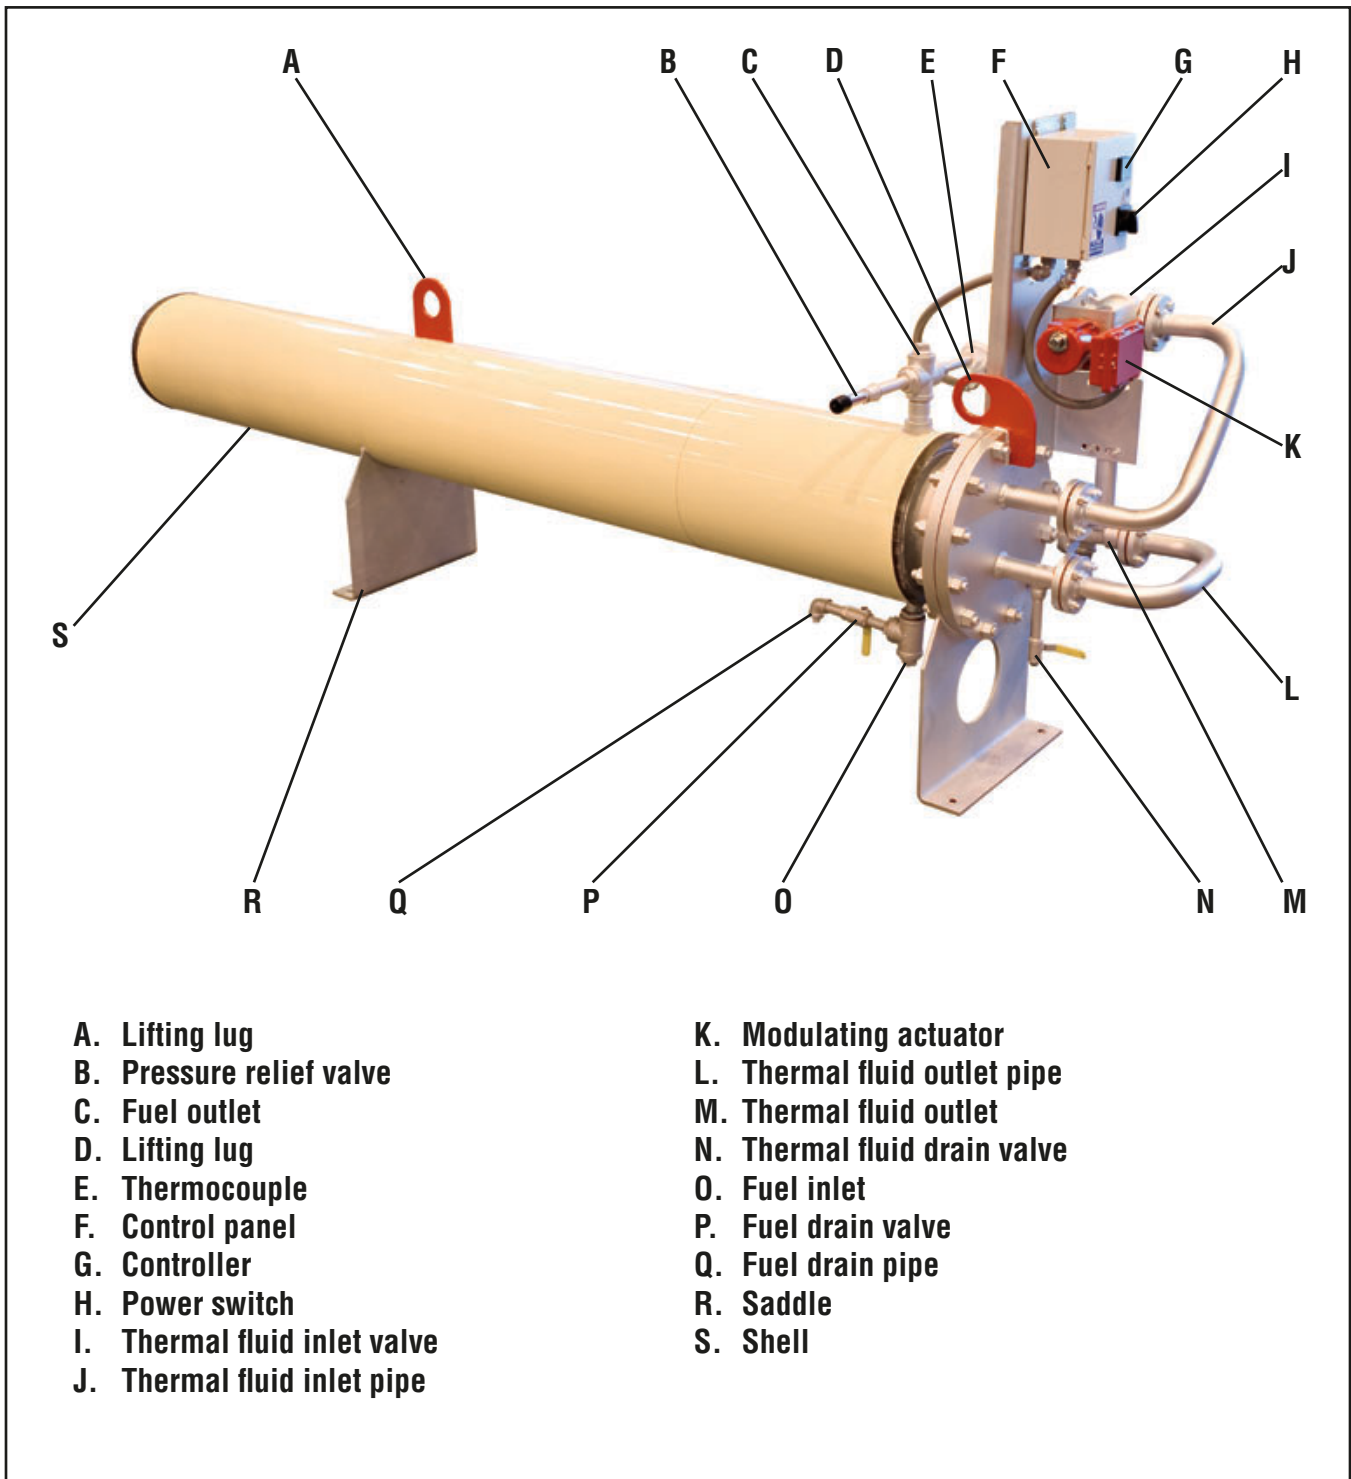

Figure 3. Major components of HFP series fuel preheater.
Before operating the preheater you should become familiar with the positions of the coupling that connects the Triac EM300 modulating actuator (Fig. 3) to the 3-way valve.
Before you fill the preheater with fuel, drain all water from the fuel tank. Some fuels may contain up to 2% of water. Therefore a 10,000 gallon tank filled with fuel could include up to 200 gallons of water. Water is heavier than fuel, so it will settle at the bottom of the fuel tank. You must drain water from the fuel tank to avoid filling the preheater with water. If the preheater contains water when hot thermal fluid enters the heating coils, the water can suddenly turn to steam. This results in excess pressure, forcing steam to exit from the pressure relief valve (*B, Fig. 3*). You should drain water from the fuel tank weekly, or whenever you expect excess water to be in the tank. After all water is drained from the fuel tank, the preheater is ready for startup.
- b. Place bucket or suitable container under fuel drain (*Q, Fig. 3*). The preheater could contain up to 1 gallon of water before startup.
- c. Open the fuel drain shutoff valve (*P, Fig. 3*) to release water. Water is heavier than fuel, so it will settle at the bottom of the preheater. Therefore, water will drain out before fuel.
7. Turn on the fuel pump. If the circulating fuel is cold, the modulating actuator (*K, Fig. 3*) will immediately open the thermal fluid inlet valve (*I, Fig. 3*) fully.
Set the Yokogawa UT150 temperature controller (*Fig. 4*) according to Heatec Tec-Note 8-04-144. During auto-tune, the modulating actuator (*K, Fig. 3*) will open and close the thermal fluid inlet valve (*I, Fig. 3*) several times while the controller automatically sets PID settings.
For normal daily shutdown, simply turn off the fuel pump. Because the fuel pump is electrically interlocked with the thermal fluid inlet valve (*I, Fig. 3*), the actuator (*K, Fig. 3*) will set the valve to bypass fluid from the preheater.